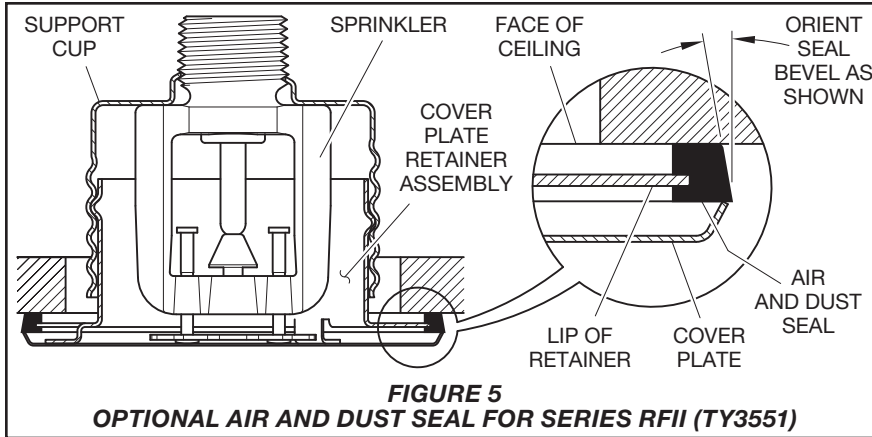

FIGURE 5
As an option, the Series RFI Standard Response (5-mm bulb) “Royal Flush II” Concealed Pendent Sprinklers can be fitted with a silicone Air and Dust Seal. See Figure 5. The Air and Dust Seal is intended for sensitive areas where it is desirable to prevent air and dust from the area above the ceiling to pass through the cover plate.
Step 7. When installing an Air and Dust Seal, see Figure 5; otherwise, proceed to Step 8. To attach the Air and Dust Seal, verify the angle of the outside edge of the seal is oriented according to Figure 5. Start the edge of the Retainer in the grooved slot of the Air and Dust Seal and continue around the retainer until the entire Air and Dust Seal is engaged.
Step 8. Screw on the Cover Plate/Retainer Assembly until the Retainer, shown in Figure 2, or the Air and Dust Seal, shown in Figure 5, contacts the ceiling. Do not continue to screw on the Cover Plate/Retainer Assembly so that it lifts a ceiling panel out of its normal position. If you cannot engage the Cover Plate/Retainer Assembly with the Support Cup or you cannot engage the Cover Plate/Retainer Assembly sufficiently to contact the ceiling, you must reposition the Sprinkler Fitting.